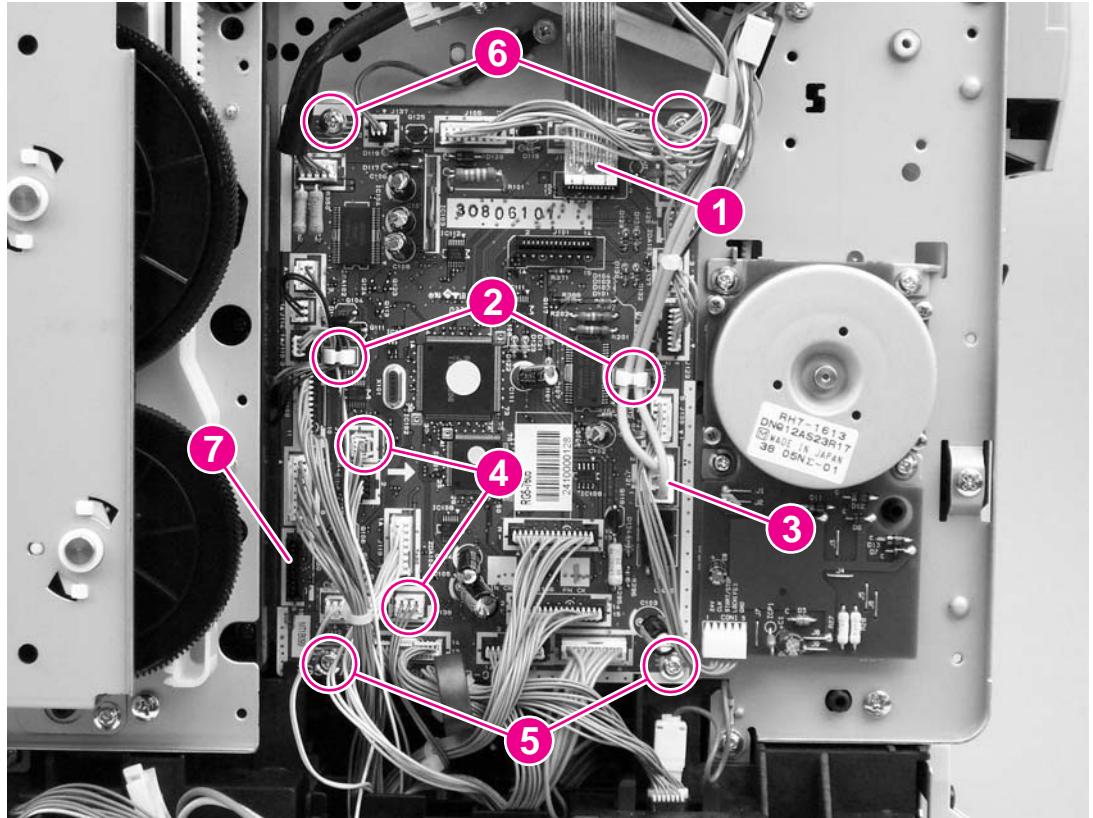

Figure 5-14. Removing the dc controller
5. Unplug two cable connectors (callout 4) by releasing a clip on each connector (see the detail in the lower-left corner of Figure 5-14. Removing the dc controller).
The connection that remains empty upon reinstallation is shown in callout 7 in Figure 5-14. Removing the dc controller. The connection is used to "flash" the dc controller.